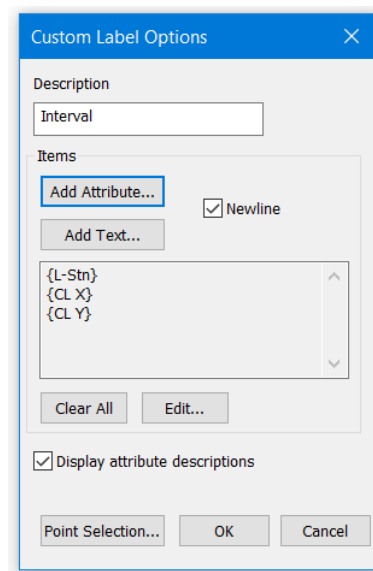

Figure 23-12: Custom Label Options Dialogue Box after Modifications
7. Press *OK* to return to the *Custom Label Options* dialogue and the updated *Items* list (Figure 23-12).